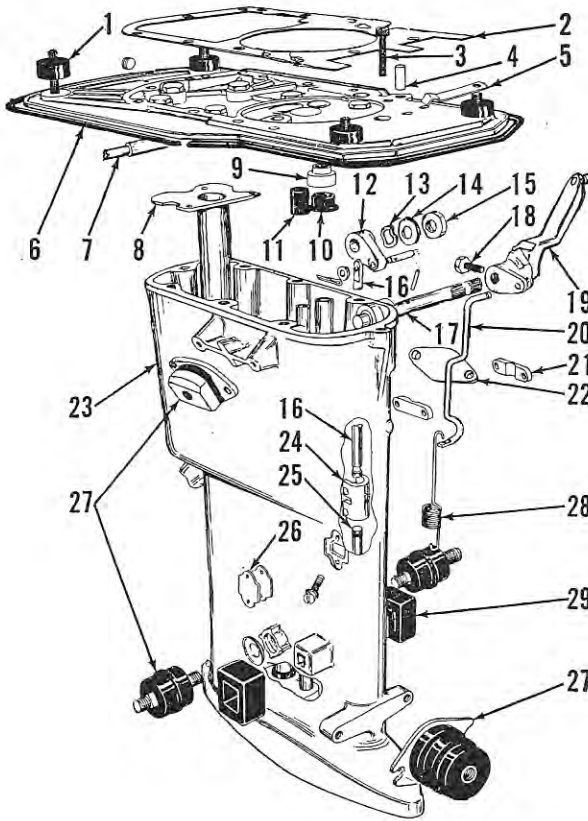

**Fig. Mc140 — To retain the driveshaft in gearcase when separating the lower unit, thread a screw (S) in vent plug hole as shown.**
To detach the gearcase housing from the lower motor housing, first drain the gearcase and disconnect shift rod coupling (12—Fig. Mc139). Remove the stud nut and two capscrews retaining the gearcase housing to lower motor housing. To make sure the driveshaft is removed with gearcase and gears, install a screw (S—Fig. Mc140) in vent plug hole and tighten screw up against the driveshaft. Carefully withdraw the gearcase housing and driveshaft assembly. The forward gear (12—Fig. Mc138), reverse gear (15), clutch dog (13) and associated parts can be removed after removing the propeller shaft assembly as previously outlined, then withdrawing the driveshaft. Forward and reverse gears are marked "T" and "R" for proper identification and assembly. Shifter fork (14) may be removed by unscrewing the shift rod (21). Assembly can be facilitated by counting the number of turns shift rod is threaded into fork.